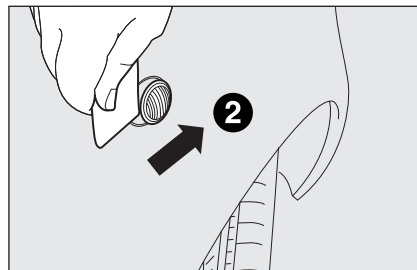

fig. 16b
- ☐ then lever in the opposite direction, by applying force from the back part (**2-fig. 16b**) and remove unit **B**